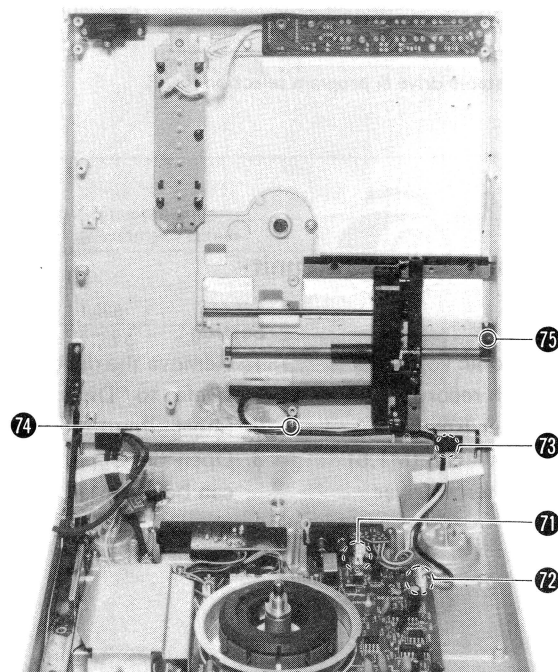

Fig. 18
3. Remove the two connectors 71 (PHONO IN) and 72 (CN204) of the drive P.C.B.; remove the bushing 73 and lead clamper setscrew 74 of the upper cabinet. (See Fig. 18)
4. Remove the guide rail setscrew 75 of the tonearm; then the tonearm unit can be removed. (See Fig. 18)